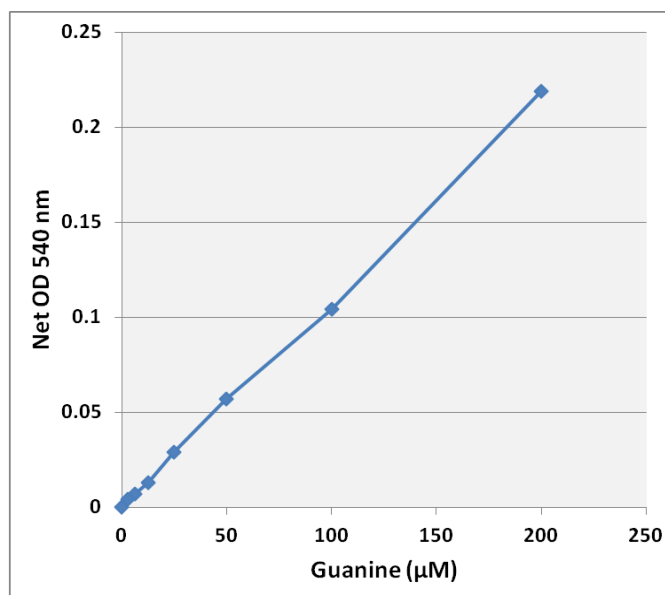

Figure 2: Guanine Standard Curve.
3. Graph the standard curve (see Figure 2).